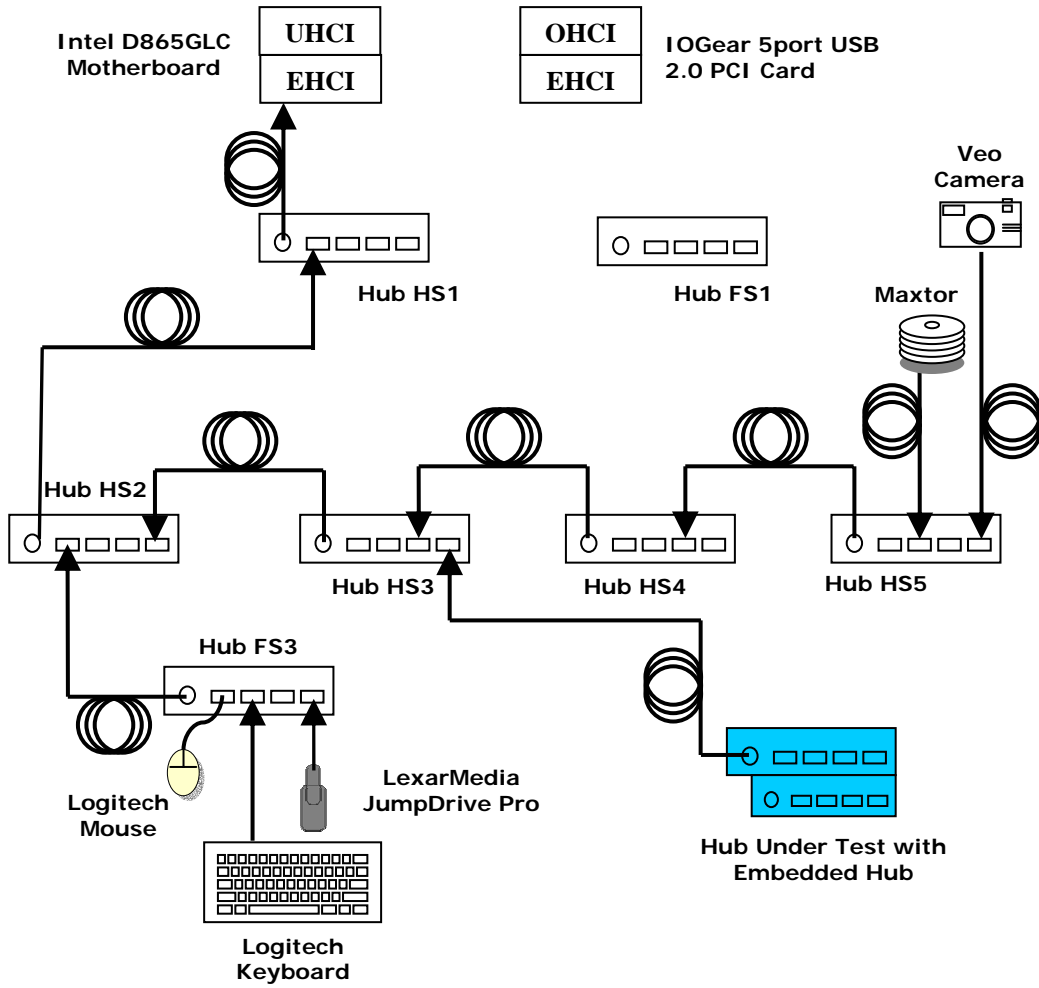

Figure D-8: Hub with Embedded Hub
- Connect hub under test to Hub HS3 with a 5 meter cable (Please see Figure D-8: Hub with Embedded Hub)